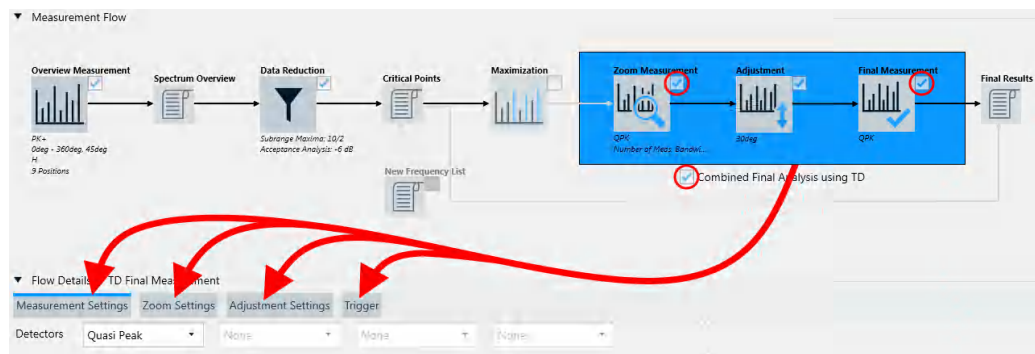

Figure 4-64: The icon for **Combined Final Analysis using TD** gives access to various settings in the **Flow Details**
- Both the Zoom Measurement and the Final Measurement are enabled, as indicated by the red circles in Figure 4-64